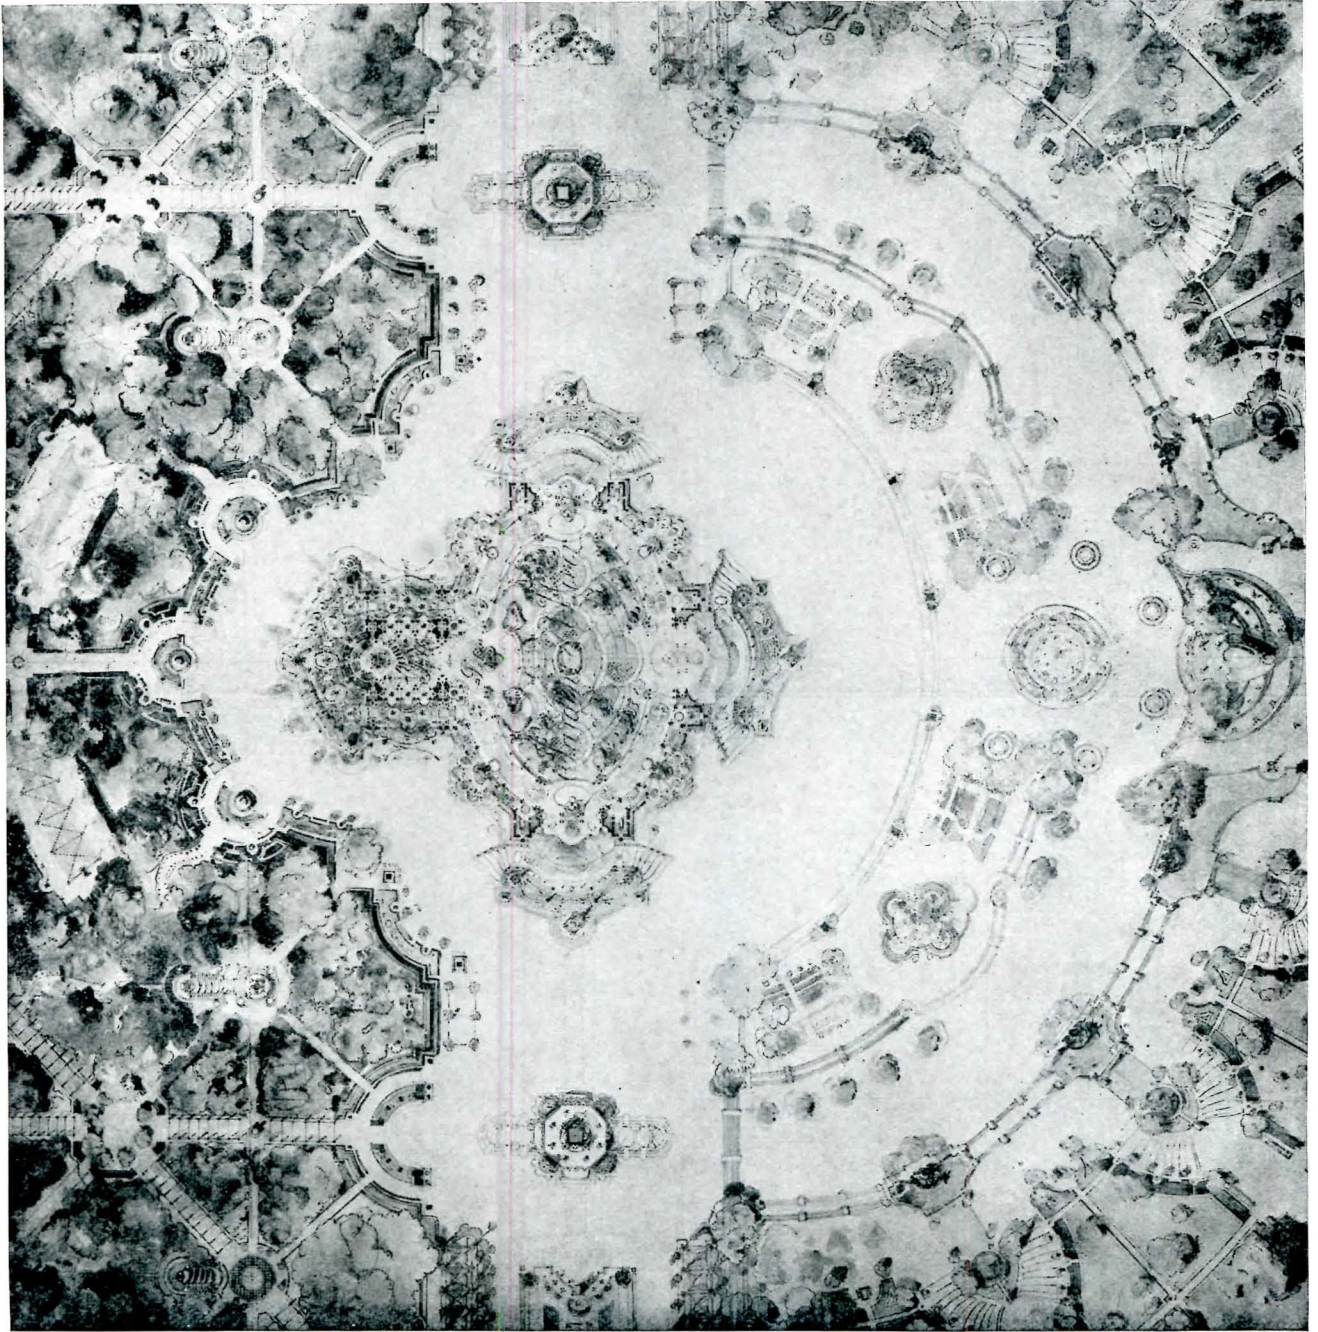

Figure 180. "Les Salles de Fêtes et de Réunion et Les Grandes Serres d'un Jardin d'Acclimatation."
4. A change in the material used in construction will, of course, cause a change in the character and weight of the *poché*. This is especially striking where a building is in part of masonry and in part of steel construction. In Figure 180, a horticultural society's building, note the interesting differentiation between the *poché* of the rooms of more ordinary size and construction, and the large horticultural hall in front—a sort of monumental greenhouse, where the thin points of support show that the construction is of metal and indicate the large areas of glass. This plan is also interesting for its study in mosaic. Note, too, the character of *poché* used to express the large central banking room in the Grand Prix plan of Tony Garnier, Figure 9, in Mr. Swales' article in the November 1921 issue of PENCIL POINTS.